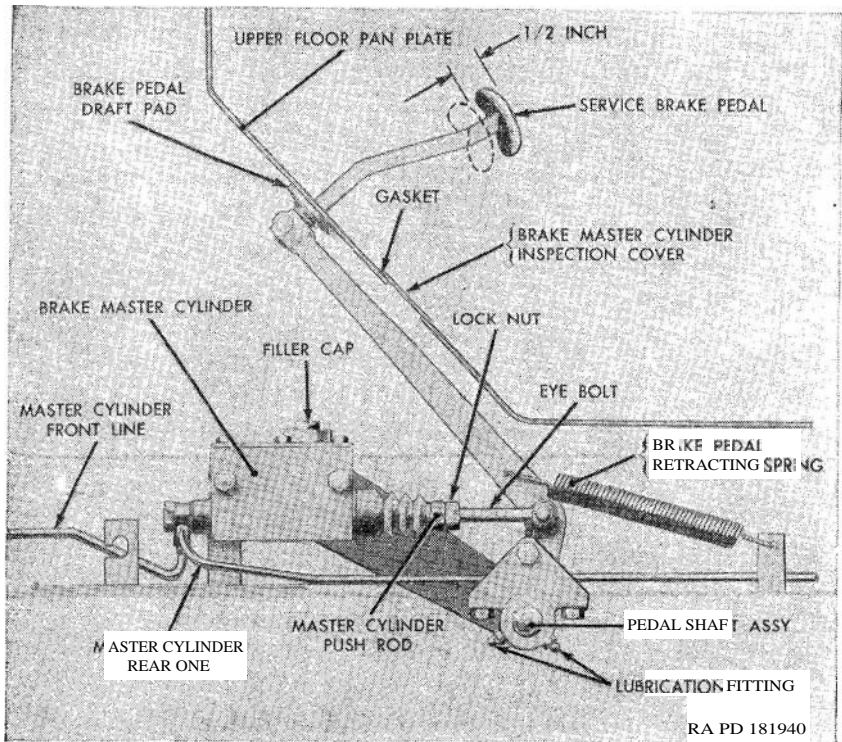

Figure 158. Service brake pedal and brake master cylinder linkage.
has two shoes. Adjustments are provided to compensate for brake lining wear. The service brake pedal (fig. 158) operates a piston in the master cylinder to force brake fluid through the brake lines to the wheel cylinders which actuate the brakes. The hand brake (fig. 163) is located at the rear of the transfer and is normally used to hold the vehicle in position when parked. The hand brake can also be used to stop the vehicle in cases of emergency or failure of the service brakes. The hand brake handle (W, fig. 12), for operating the brake, is located between the two front seats. Pulling up on the handle forces the brake shoes against the brake drum,
*a. Service Brake Pedal Free Travel Adjustment* (fig. 158). Correct service brake pedal free travel adjustment insures that the service brakes will be fully released, when the brake pedal has returned from the depressed position.
- (1) Loosen the steering gear mounting bolt (F). Loosen the bolt (Q) securing the front end of the master cylinder to the frame side rail. Raise the shield (P) to release the slotted ends of the shield from the loosened bolts and slide the shield toward the rear of the vehicle to remove.
- (2) Disconnect the stoplight switch cables number 75 at connectors (H and K).
- (3) Unscrew the nuts securing the master cylinder front and rear brake lines (J and B) to the outlet fitting (N) and pull the lines from the fitting. Place a suitable container under the fitting and allow the hydraulic brake fluid to drain into the container.
- (4) Remove the cotter pin and plain washer securing the master cylinder eyebolt to the stub shaft on the lower end of the brake pedal assembly (fig. 158) and slide the eyebolt from the shaft.
- (5) Work the boot (A) off the master cylinder end and remove the boot, master cylinder push rod, and eyebolt (fig. 158) as a unit.
- (6) Loosen the two machine bolts (Q) securing the tie bar (R) and master cylinder to the frame side rail (E), and pull the bolts out sufficiently to clear the side rail. Lower the master cylinder to the floor with the cylinder attached to the tie bar and with the rear end of the tie bar attached to the brake pedal shaft.
- (7) Pull the two machine bolts (Q), with lockwashers and plain washers, from the tie bar (R), and remove the master cylinder from the tie bar.
- (8) Unscrew and remove the stoplight switch (L) from the outlet fitting bolt (M). Unscrew and remove the bolt (M), outlet fitting (N), and two outlet fitting gaskets. Discard gaskets.
- (1) Install the stoplight switch (L) in the outlet fitting bolt (M). Slip a new outlet fitting gasket, the outlet fitting (N), and another new gasket over the end of the outlet fitting bolt in the order named. Insert the bolt into the front end of the master cylinder and tighten fingertight.
- (2) With the master cylinder push rod, eyebolt (fig. 158), and boot (A) assembled as a unit, insert the end of the push rod into the rear of the master cylinder and work the boot open end over the cylinder end.
- (3) Position the master cylinder, with attached parts, next to the tie bar (R) with the tie bar holes alined with the cylinder holes. Insert two  $\frac{5}{16} \times 3$  bolts, with  $\frac{1}{6}$ -inch lockwashers and plain washers, through the tie bar and into the cylinder holes.
- (4) Raise the master cylinder into position against the frame side rail (E) and thread the bolts into the nuts welded to the frame. Tighten the rear bolt securely but leave the front bolt loose.
- (5) Position the master cylinder eyebolt, over the stub shaft on the lower end of the brake pedal assembly (fig. 158), and secure with a  $\frac{7}{16}$ -inch plain washer and  $\frac{1}{2} \times \frac{3}{4}$  cotter pin.
- (6) Turn the outlet fitting (N) to mate with the ends of the two brake lines (B and J) and secure the lines to the fitting with the nut on the end of each line. Tighten the outlet fitting bolt (M).
- (7) Connect cables number 75 at connector (H and K).
- (8) Position the shield (P) under the cylinder and slide the slots in the shield brackets over the bolt (F) securing the steering gear to the frame side rail and the front bolt (Q) securing the tie rod and master cylinder to the frame. Tighten both bolts.
- (9) Fill the master cylinder with hydraulic brake fluid (*a* above), bleed the brakes (par. 237), check the brake pedal for free play and adjust if necessary (par. 233a).